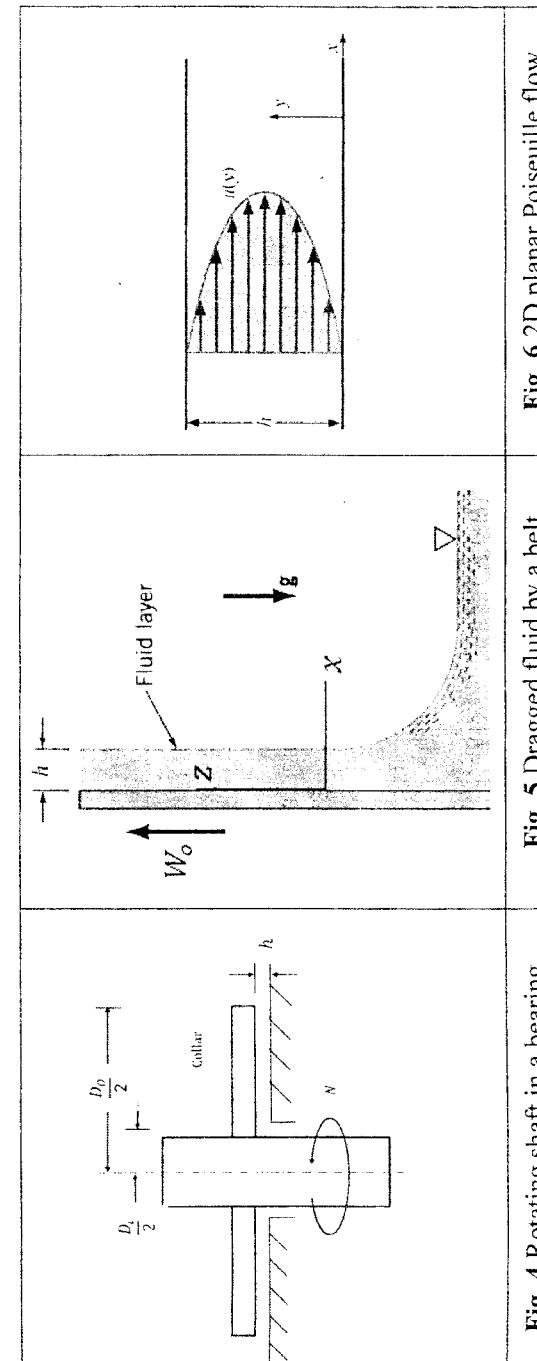

Fig. 4 Rotating shaft in a bearing
2. Drive an expression for the power required to overcome the viscous resistance in a collar bearing for the rotating shaft given in Fig. 4. The outer and inner diameters of the collar are D_o (m) and D_i (m) respectively and the rotating speed is N (rpm). The oil film thickness is h (m) and the oil has a dynamic viscosity of μ (Ns/m²).